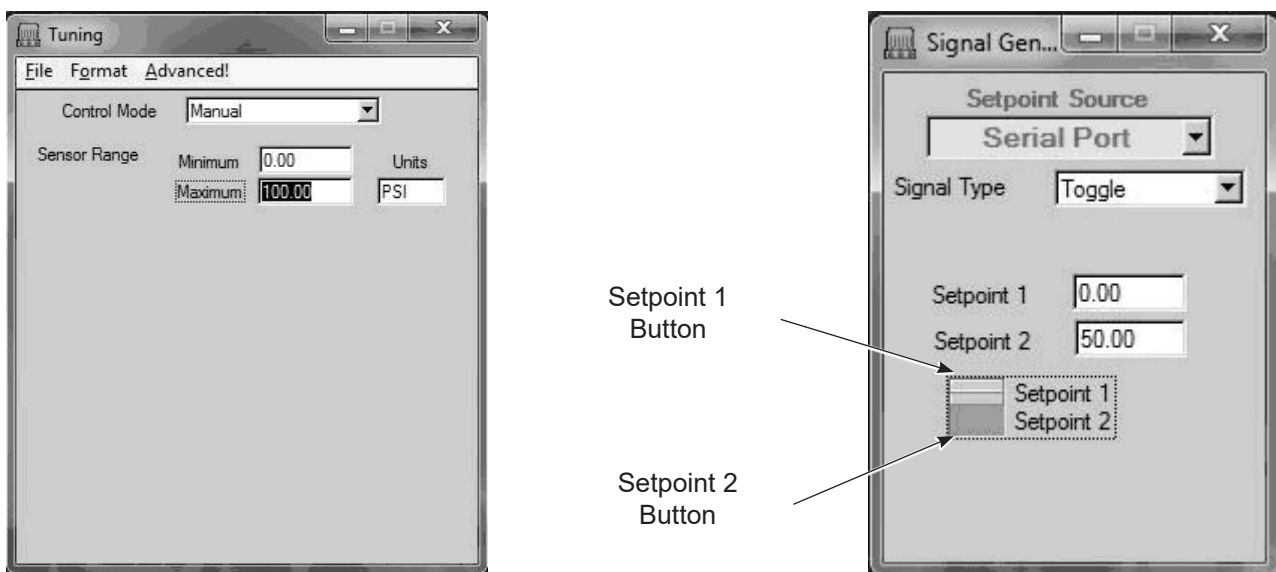

Figure 9 Tuning and Signal Generator Windows
3. See Figure 9. In the *Tuning* window, adjust the setting as follows:
1. With the *Signal Generator* and *Plot* windows in view, click on the *Setpoint 1* button in the *Signal Generator* window (see Figure 9), and wait until the feedback reaches 0 psi.